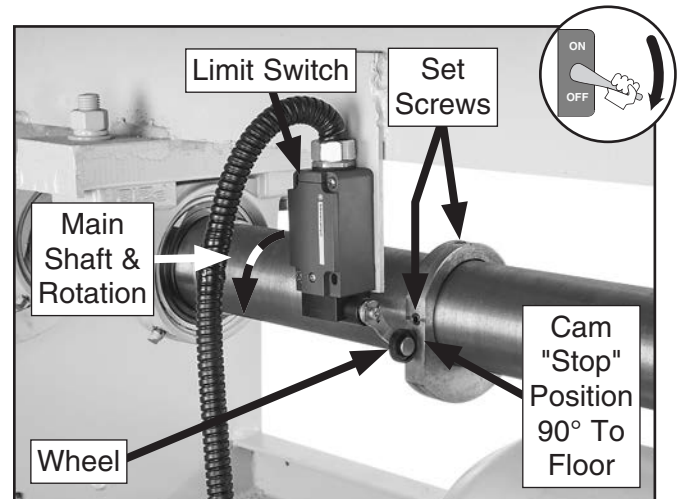

Figure 74. Blade travel limit switch location.
4. If cam is not in "stop" position 90° to floor as shown in **Figure 74**, loosen (2) set screws, rotate cam, then tighten set screws.
- If main shaft *does* stop where shown in **Figure 74**, limit switch works properly. Mark cam and shaft for future reference.
- If main shaft *does not* stop where shown in **Figure 74**, replace limit switch and perform **Steps 3–5** if necessary.